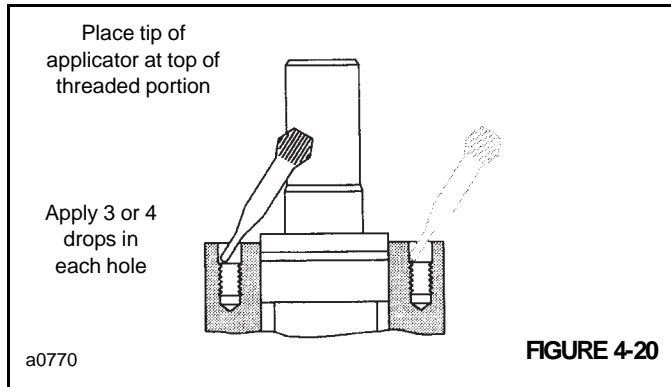

FIGURE 4-20
9. Apply 3 or 4 drops of Loctite sealant at the top of the threads for each of the four holes in the housing Figure 4-20. Do not allow parts with Loctite to come in contact with any metal parts other than those for assembly. Wipe off excess Loctite from housing face, using a non-petroleum base solvent.